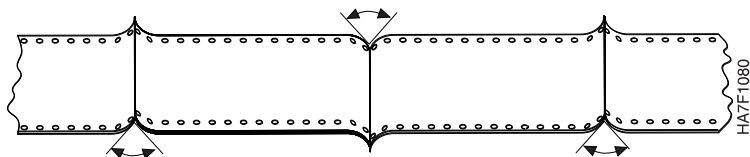

Figure 11. Fold Memory
1. Lift the first five or ten sheets of the forms stack, as shown in Figure 11.